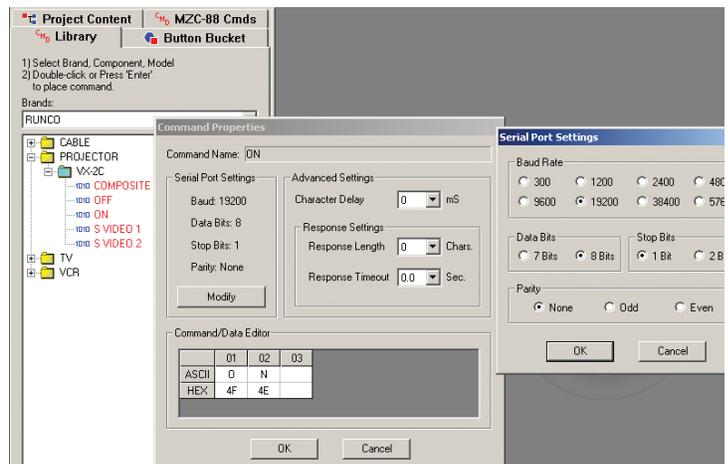

Figure 10
8. The **Command Properties Window** will open automatically, with the first new command already placed in the Command Name field. (i.e. ON) (Refer to **Figure 10**)
9. Left click **Modify** in the **Com Port Settings** box, to make any changes necessary to: **Baud Rate, Data Bits, Parity** and **Stop bits**, per the manufacturer's protocol. The **Serial Port Settings** pop-up will appear. Make necessary changes and click **OK**. (Refer to **Figure 10**)